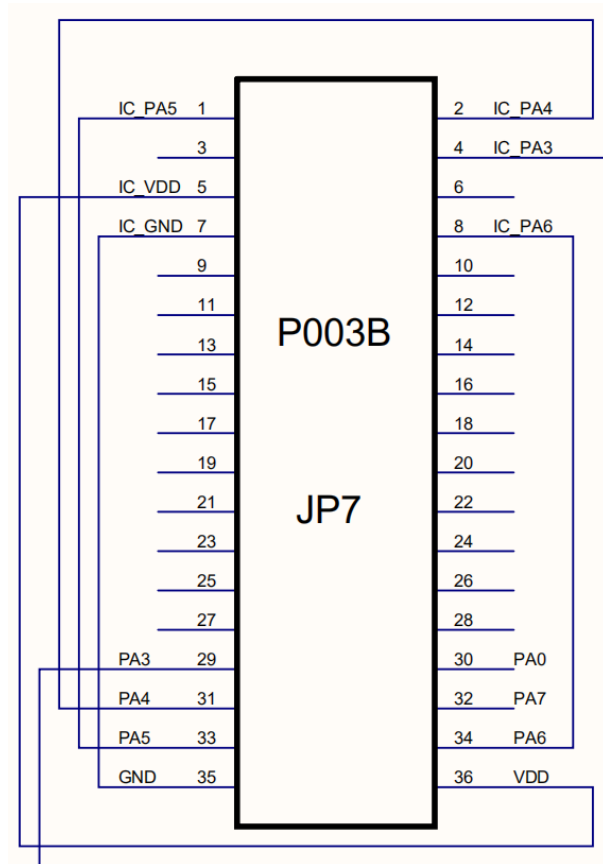

Fig.23: schematic diagram of PMS161-S08B Jumper7 when using P003B
2. As shown in figure 23, it is the Jumper7 connection method.